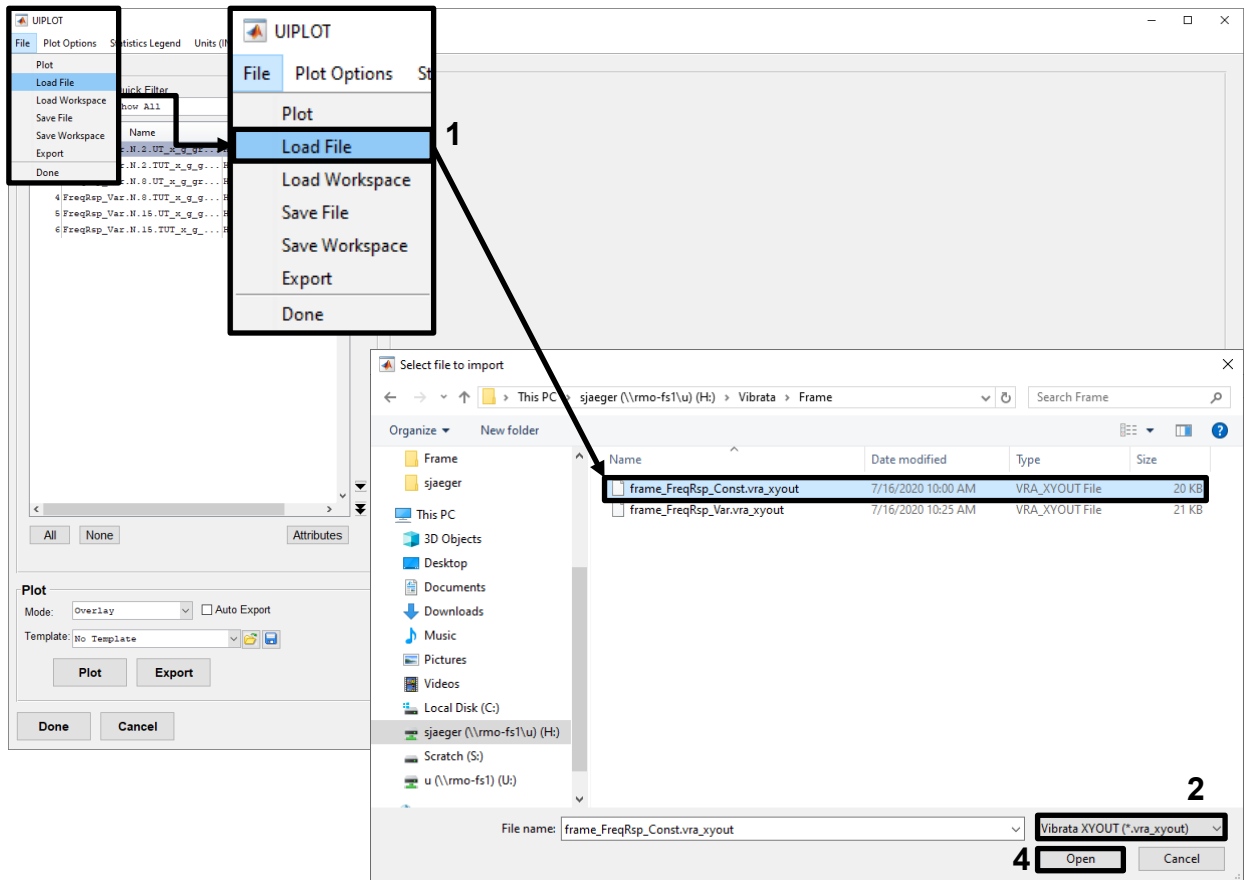

Figure 4-35. Load results from the constant-amplitude event into the output plotter.
- b. In the *UIPlot* dialog, load the results from the first frame event (Figure 4-35).